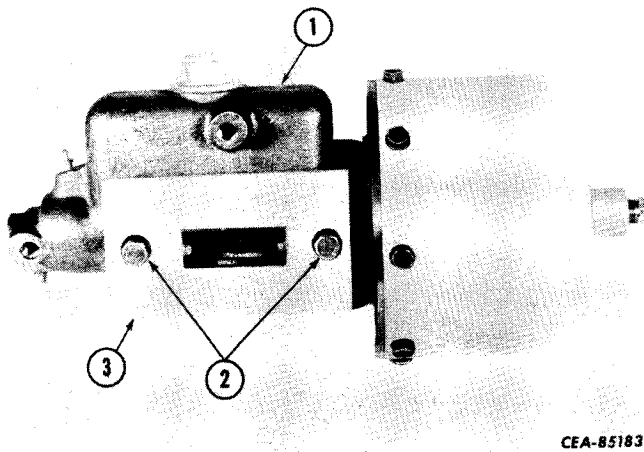

Figure 13-75
Install and tighten the cap screws and lock washers (2, Fig. 13-75) that secure the hydraulic cylinder (1) to the bracket (3).